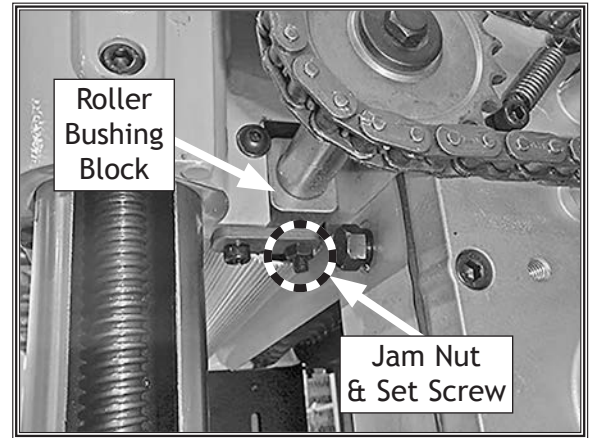

Figure 44. Example of infeed roller bushing block and height adjustment controls.
8. Loosen jam nuts and use set screws on each side of feed roller (see **Figure 44**) to adjust height of infeed roller bushing block until Rotacator dial shows 0.040", which is the recommended distance for infeed roller below cutterhead.